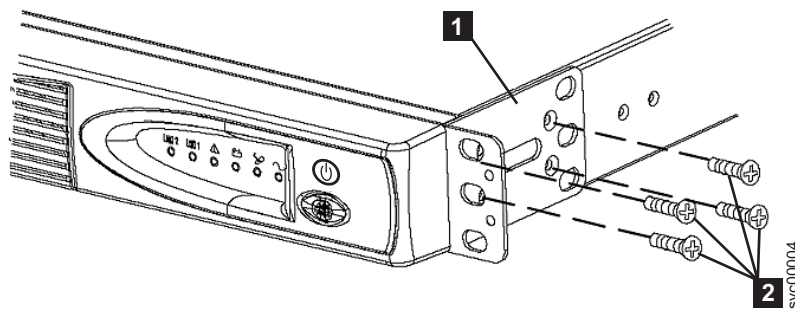

Figure 26. Installing the support rails for a 2145 UPS-1U into the rack
3. Attach the long side of a mounting bracket **1** to each side of the 2145 UPS-1U using four M3 × 6 screws **2** for each bracket, as shown in Figure 26.